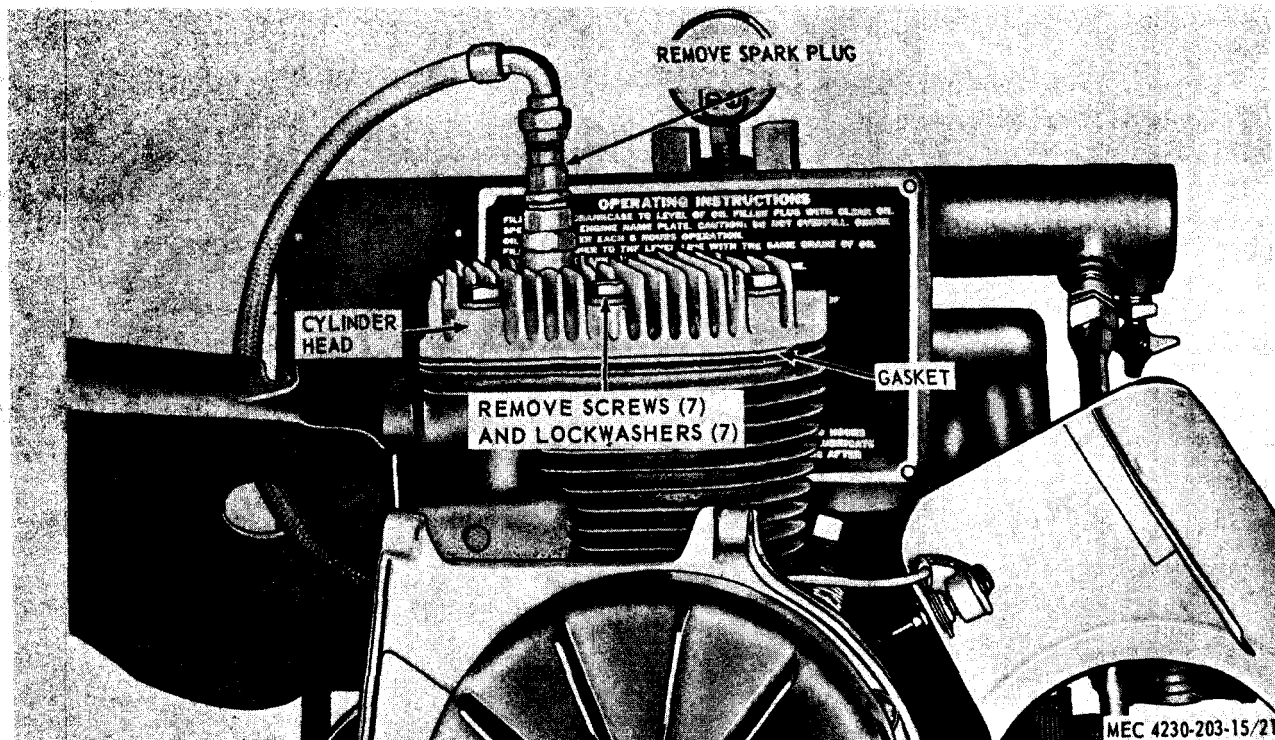

Figure 4-16. Cylinder head, removal and installation.
b. *Installation.* Refer to figure 4-16 and install the engine.
- (1) Remove the spark plug.
- (2) Remove the flywheel housing and baffles (para 4-11).
- (3) Refer to figure 4-16 and remove the cylinder head and gasket.
- (1) Refer to figure 4-16 and install the cylinder head and gasket. Torque capscrews to 15 ft-lb.
- (2) Install the flywheel housing and baffles (para 4-11).
- (3) Install the spark plug.